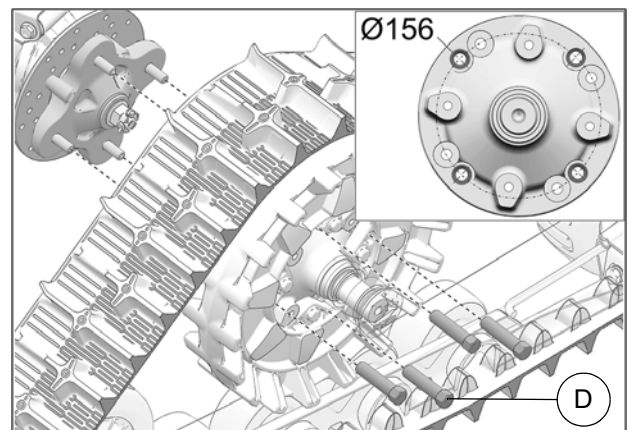

Fig. 9
9. Secure undercarriage to rear hub using the provided M12 lug nuts (D). Use bolt circle Ø156mm. See Fig. 9